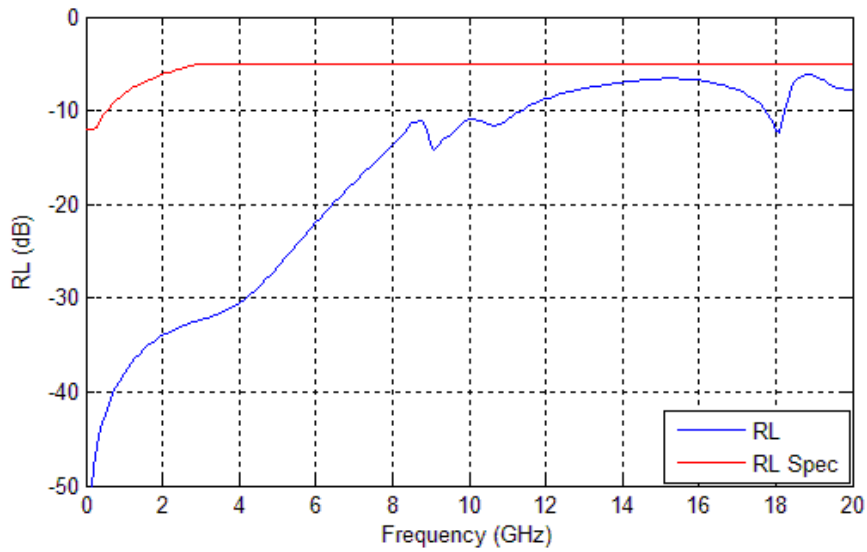
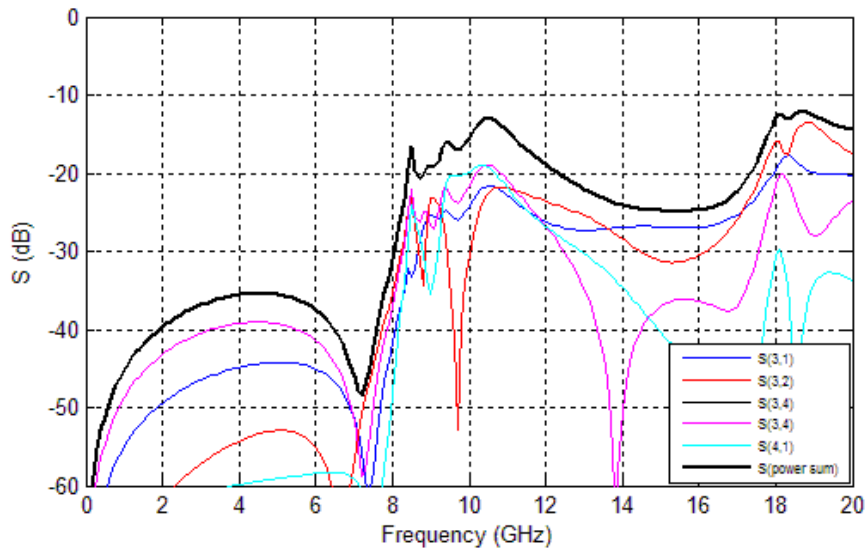
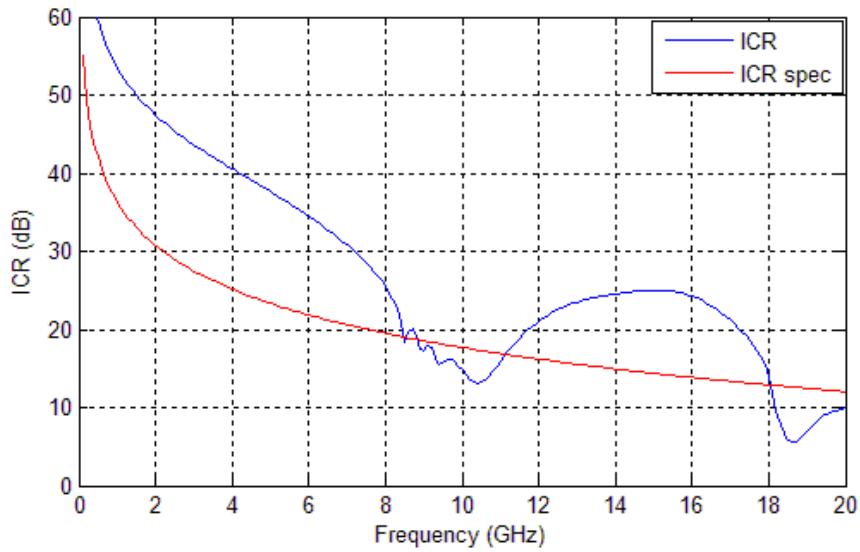

Figure 5 RL profile for pair 3 of connector only
Figure 6 Power Sum of NEXT for pair 3 of connector only
Figure 9 ICR profile of FEXT for pair 3 of connector only
Figure 5 shows the return loss (RL) comparison with the IEEE802.3ap spec for pair 3. Figure 6 - Figure 9 show the power sum and insertion-to-crosstalk ratio (ICR) profile comparison with the IEEE802.3ap spec of NEXT and FEXT respectively. For the power sum and ICR plots, we combine the crosstalk effects from the five neighboring pairs of pair 3 (we consider additional crosstalk effects of pair 4 to pair 3, and pair 4 to pair 1 to represent pairs to the left of pair 3, not shown in the picture).